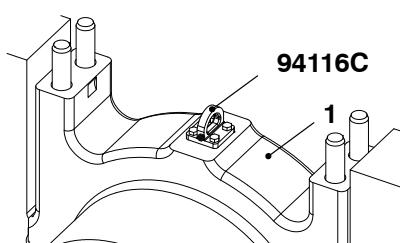

Fig. 5
- 9) Install the lifting lug (94116C, Fig. 5) on the main bearing cover (1).